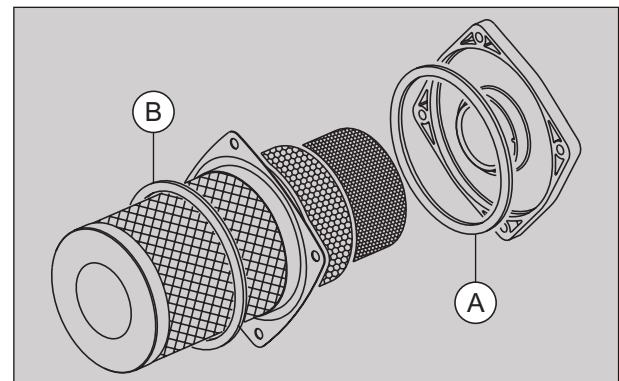

Fig. 2.26
Check that gasket inlet (A) and gasket trap flame (B) is intact and in good condition. (Fig. 2.26)